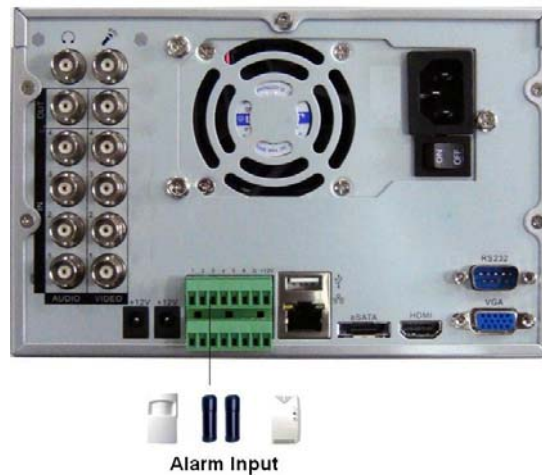

Figure 3-4
- Please refer to Figure 3-4 for more information.